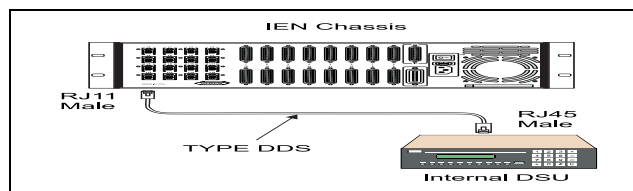

Figure 4-17 Type DDS Cable
The Type DDS male RJ11 connector is attached to an IEN 2000, IEN 3000, IEN 4000 or IEN 5000 chassis port that corresponds to the slot occupied by the CID61 or CID63 port processor. When using the Type DDS cable with a CID63 port processor, the Type T(63) cable is required. The male RJ45 connector is attached to the Telco connector. Figure 4-17 illustrates the use of a Type DDS cable.